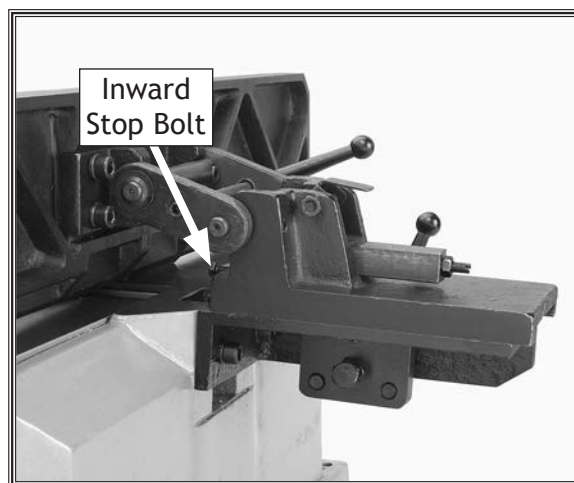

Figure 46. Adjusting the inward stop bolt.
7. Using two 8mm wrenches, adjust the inward stop bolt (see **Figure 46**) until it contacts the fence at precisely 45° inward, then tighten the jam nut (where the bolt meets the bracket assembly) while holding the stop bolt in place. Some trial-and-error will be required to set this stop correctly.